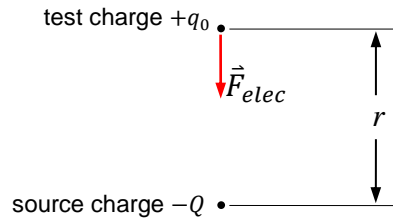
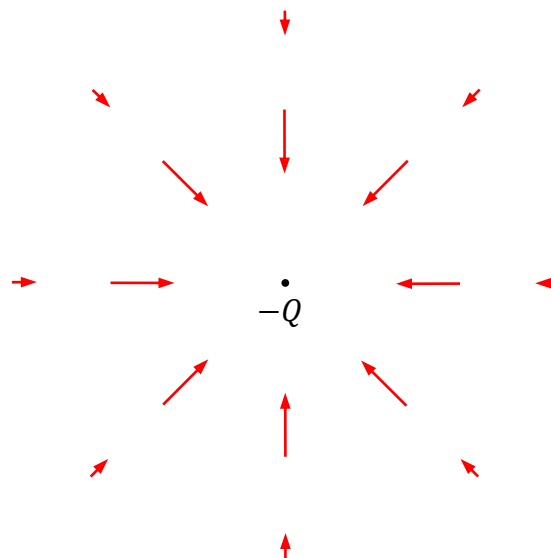

Figure 3
Figure 4
We define the electric field \vec{E} in a similar way. Consider, for example, a negative point charge $-Q$ (called the *source charge*) and a positive point charge $+q_0$ (called the *test charge*) located a distance r away from the source charge, as shown in Figure 3 below.
Because the source charge and test charge are of opposite sign in this example, the source charge will exert an attractive electrostatic force, \vec{F}_{elec} , on the test charge, as shown in Figure 3. The magnitude of this force is given by Coulomb's law:
As we did with the test *mass* for the case of the *gravitational* force, we can, for the case of the *electric* force, imagine moving the test *charge* to many different points in the space surrounding the source charge shown in Figure 3. As the distance r from the source charge varies, the magnitude of the electric force on the test charge will vary, as Eq. (4) implies. In addition, the direction of the electric force will vary so that the electric force vector always points *toward the source charge* $-Q$. Thus we can imagine an electric force vector associated with each point in the space surrounding the source charge, as shown in Figure 4 below.
The direction of the electric field is defined to be the direction of the electric force on a *positive* test charge. Thus, in Figure 4, the directions of the electric field vectors at the points shown would be exactly the same as the directions of the electric *force* vectors shown in the figure. The magnitude of the electric field at a distance r away from the source charge is given by: